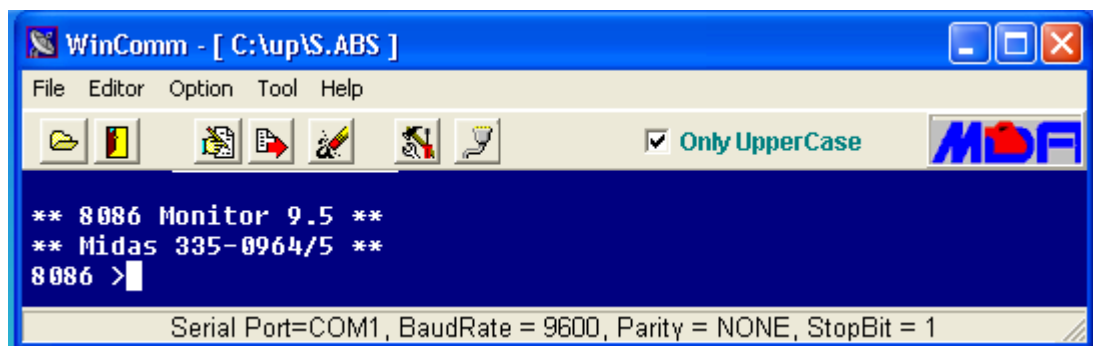

Fig. 1.7 WinComm window after RESET button of MDA-8086 is pressed
- c) Press the RESET button of MDA-8086 trainer. Some text lines as shown in Fig. 1.7 will appear in the WinComm window.